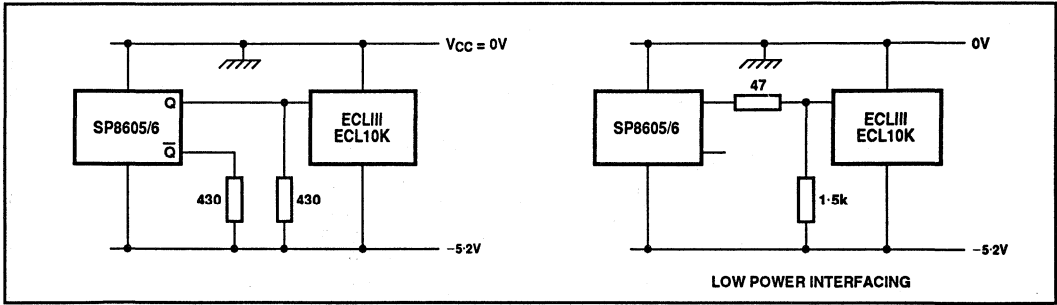

Fig. 7 Interfacing SP8605/6 to ECL10K and ECL11
5. The emitter follower outputs require external load resistors. These should not be less than 330 and a value of 430 is recommended. Interfacing to ECLII/10K is shown in Fig. 7.